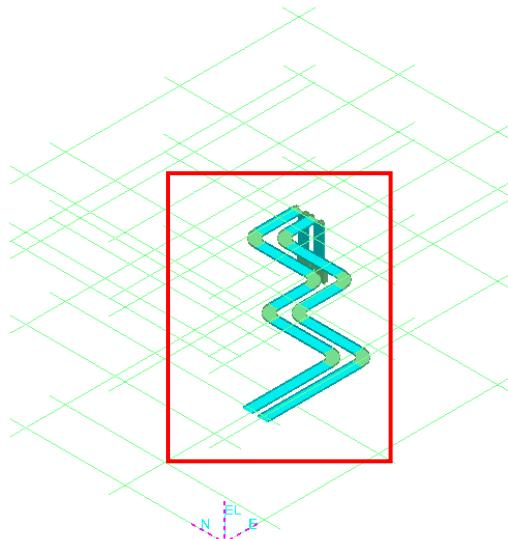

Figure 62: Routed Horizontal Multi Tray
5. Start routing the multi tray starting from the **E1** direction about **15 ft**, as shown in Figure 62.